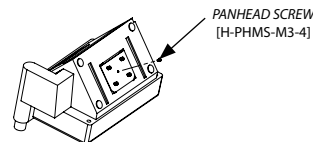

Figure 5
3. Flatten **PLATE 2** and tighten it with a **PANHEAD SCREW** in the middle hole as shown in **Figure 5**.